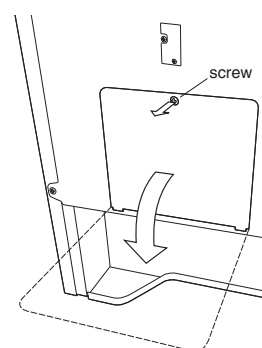

Figure 7
Loosen screw on rear access cover and pull down as illustrated in Figure 7 to access terminal block wiring connection.
- 5 Make sure all screws are tightened securely and replace the rear access cover and secure with screw. See Figure 7.
- 4 Make sure all connections are tightened securely and replace the rear access cover and secure with screw. See Figure 7.
- 5 Make sure all connections are tightened securely and replace the rear access cover. See Figure 7.